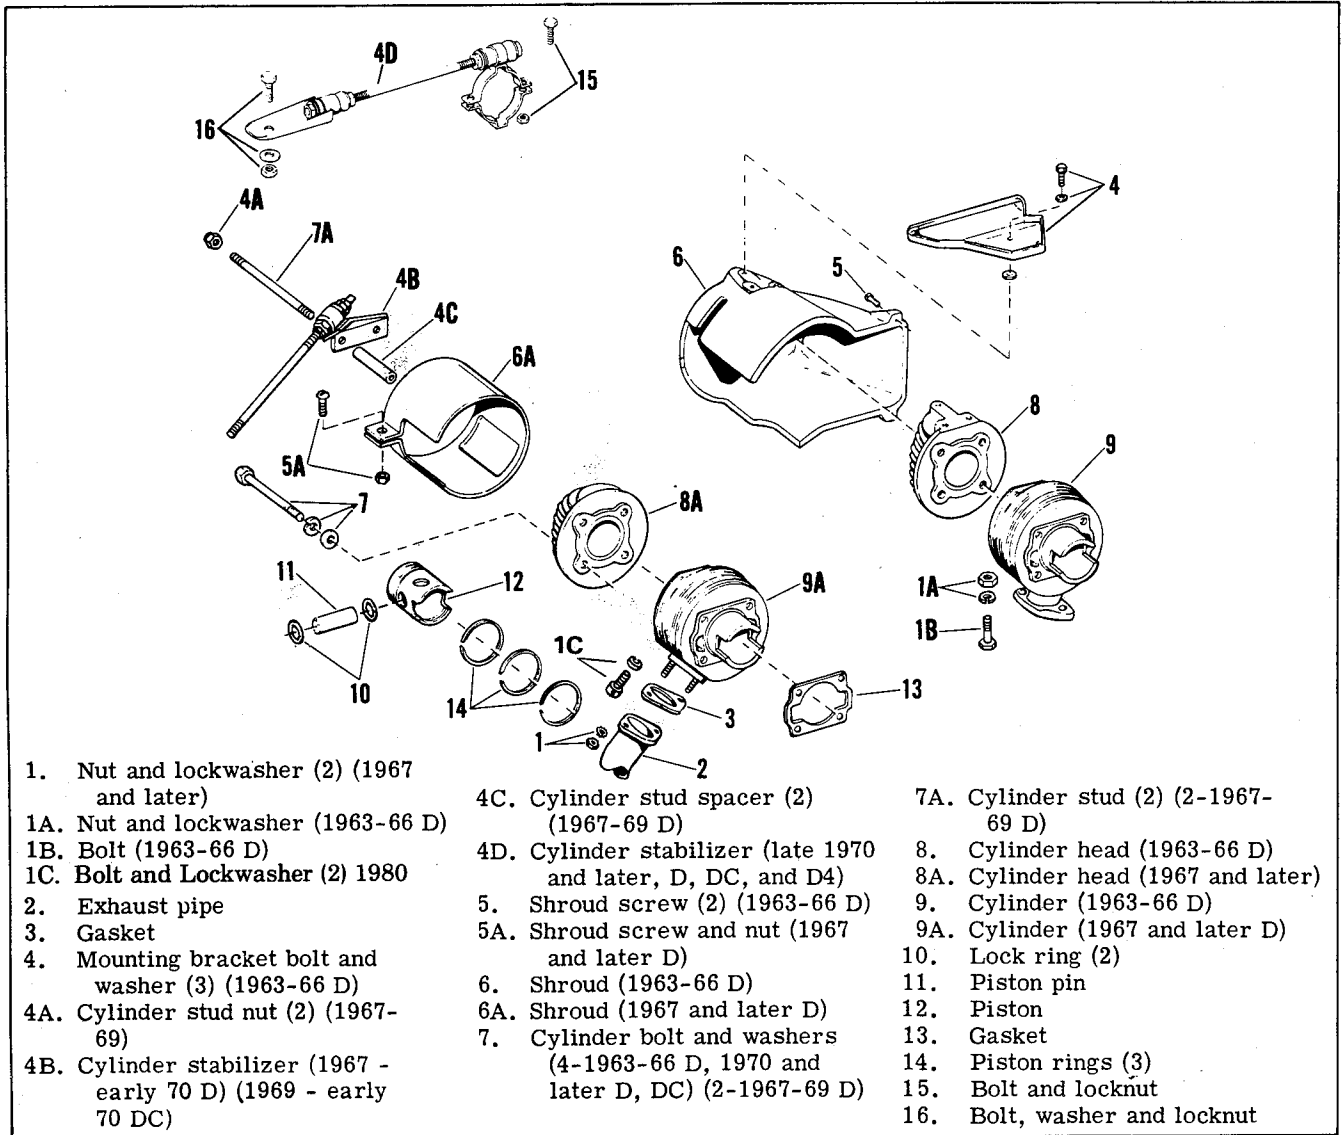

Figure 3C-68. Cylinder and Piston - Exploded View
Remove exhaust pipe nuts and lockwashers (1 or 1A and bolts 1B) to disconnect the exhaust pipe (2) and flange gasket (3) from the cylinder (See Fig. 3C-68).
### DISASSEMBLING CYLINDER AND PISTON (Figure 3C-68)